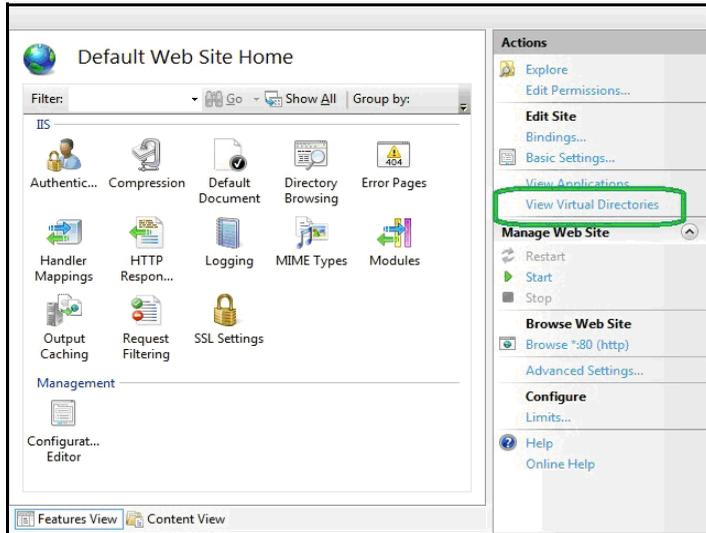

FIGURE 2-5 IIS Manager - View Virtual Directories
Step 7 Select **View Virtual Directories**, as shown in **FIGURE 2-5**.